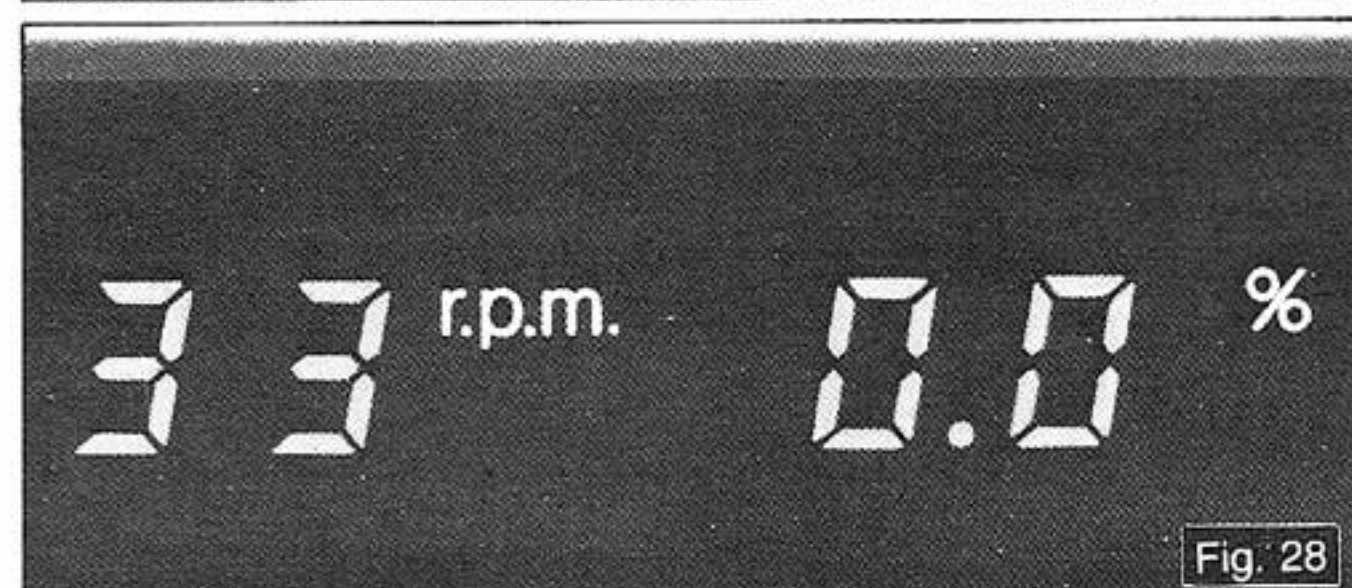

Fig. 28
- By pressing the clear button which is located between the "+" and "-" pitch buttons, you can quickly return the set to normal playing speed. (See Fig. 28).